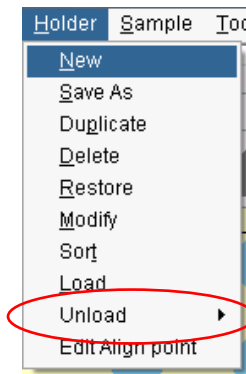

Figure 288 : Moving the sample to the “unload” position by clicking on “Unload → Analysis”
- Make sure that there is no sample on the analysis sample stage and that the sample stage is in the loading position: In the *Navigator* window, go to Holder menu: Unload → Analysis (Figure 288).